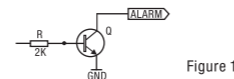

Figure 1
- Alarm output interface (See Figure 1)